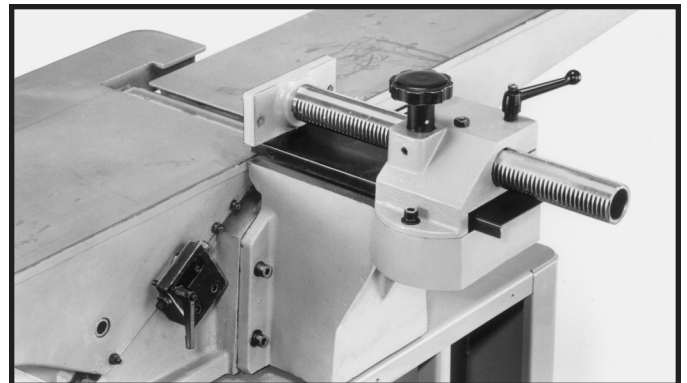

Fig. 16
2. Fig. 16, illustrates fence carriage assembly properly mounted.